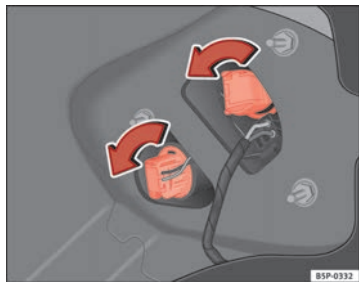

Fig. 187 Lights on vehicle body
- Turn the bulb holder to the left ⇒ fig. 187.